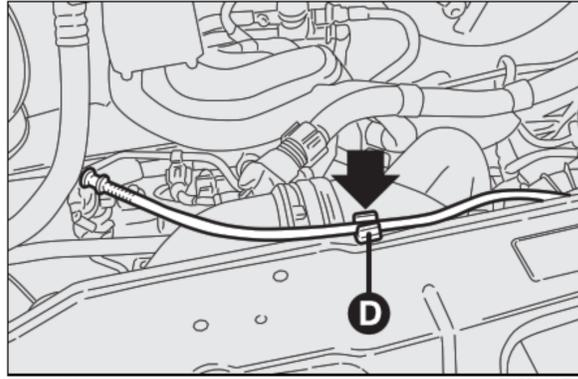
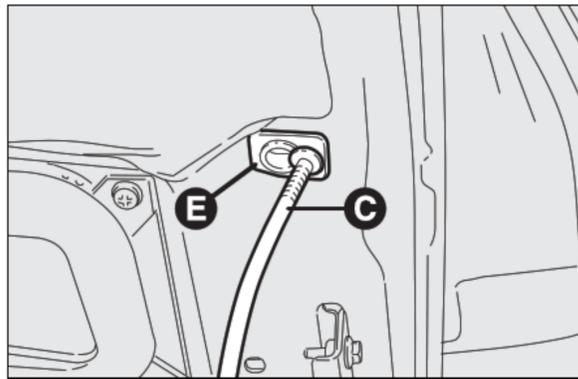

fig. 102
fig. 103
- lift the bonnet and at the same time release the rod **fig. 102** from the catch **D**, then fit the rod end **C-fig. 103** into the bonnet recess **E**.
- hold the bonnet up with one hand and with the other remove rod **C**-**fig. 103** from recess **E** and fit it back into its catch **D**-**fig. 102**;